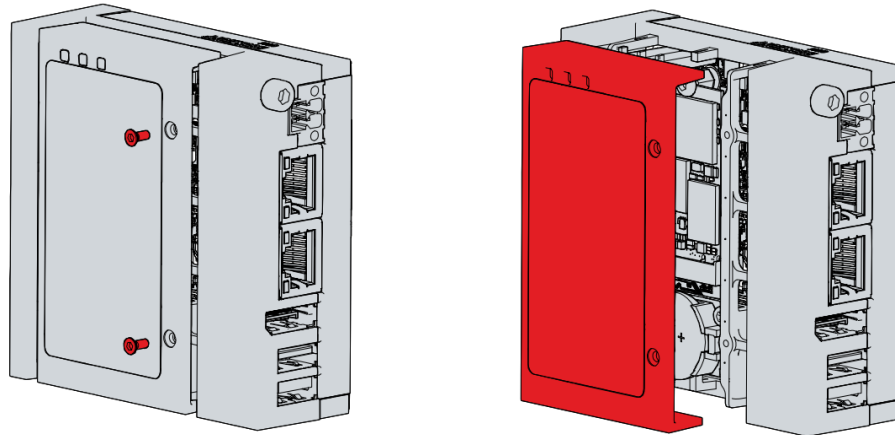
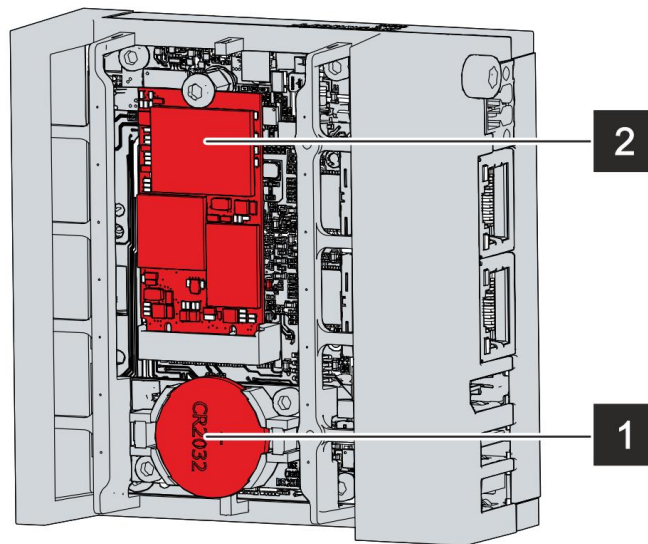

Figure 37. Access to battery and storage media
Figure 38. Battery (1) and Storage Media (2)
1. Before working on the PLC establish electrostatic discharge (ESD) protection to prevent damage to the device through electrostatic discharge. The replacement of device components without ESD protection can lead to functional impairment and destruction of the device. To gain access to the battery and the storage medium remove the cover on the left-hand side of the device by removing the two Torx TX6 screws as shown in **Figure 37**. With the cover removed the battery and storage media are shown in **Figure 38**.